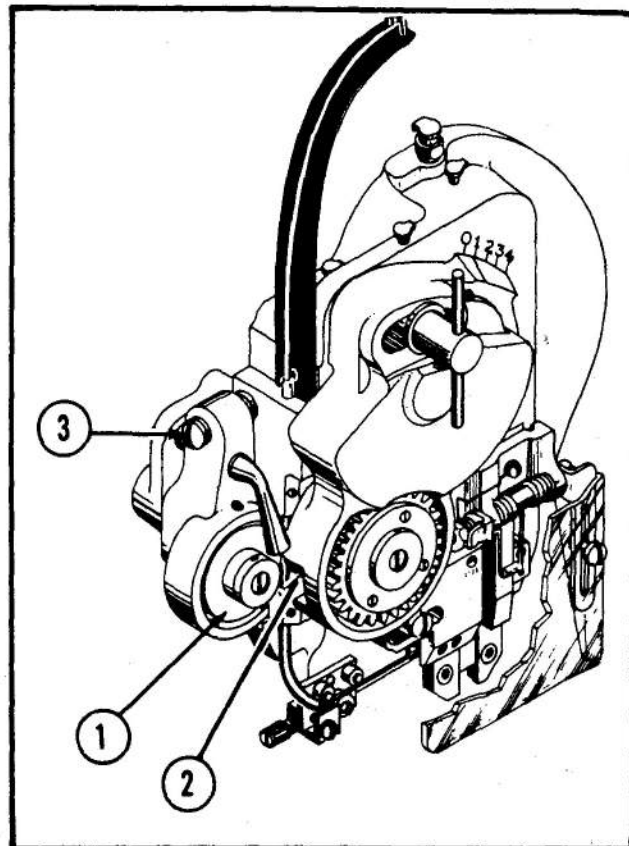

Figure 14—Wire Fed Gear Tension Adjustment
a. Turn over the machine manually and, as the formers (1) descend, check that the grooves in the formers are in exact alignment with the wire length being held by the gripper bar (2).
b. If they are not in alignment, (usually resulting in deformed crown surface), loosen the clamp block holding screw (3). Then turn gripper bar adjusting screw (4) in or out, as required, until alignment is correct. After adjustment has been made, tighten clamp block holding screw (3).
7. HOW TO ADJUST TENSION OF WIRE FEED GEARS (See Fig. 14)